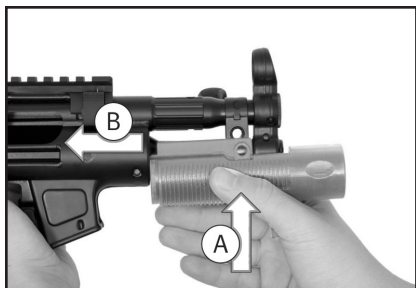

Fig. 48 – Install handguard
2. Place handguard onto receiver from below and press it rearwards (Fig. 48).